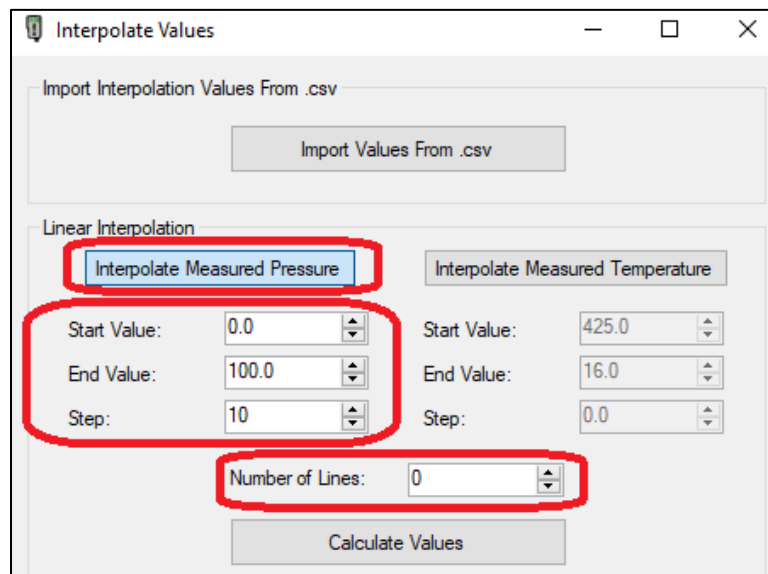

FIGURE 6-35 HHT TEST PATTERN GENERATOR SOFTWARE –INTERPOLATE MP (STEP)
STEP 1	<p>To select the step value (pressure, in this example) between each calculated IRDI message, do the following – see Figure 6-35.</p> <ol style="list-style-type: none"> Click on the “Interpolate Measured Pressure” button – the button will turn blue Click on the “Start Value” field, and enter a value at which to start the interpolation Click on the “End Value” field, and enter a value at which to end the interpolation Click on the “Step” field, and enter the step amount (in MPa) to use between each calculated IRDI message that you would like to generate Click on the “Number of Lines” field, and enter zero.